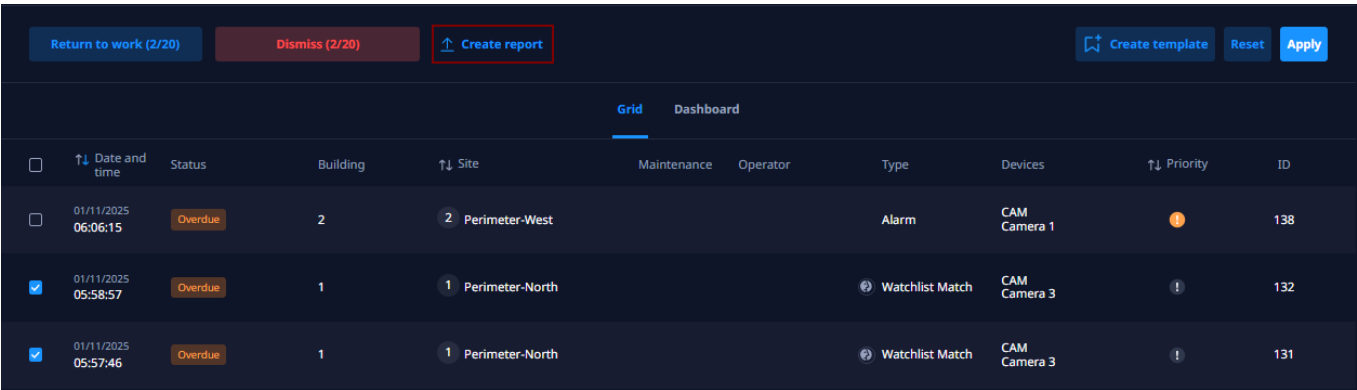

Figure 71. Creating report on incident group
3. Click the **Create report** button (see Figure 71).